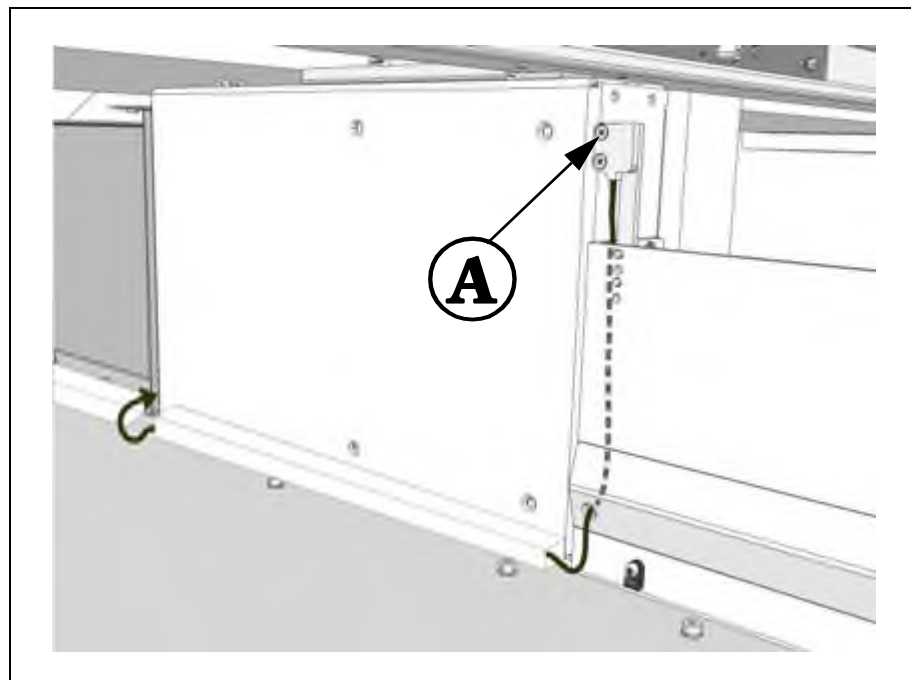

Figure 11-6. Adjust Board Jam Sensor
4. Adjust the Board Jam Sensors by loosening the two screws ('A' in Figure 11-6) holding the Board Jam Sensor to the sensor bracket.
5. Slightly turn the Board Jam Sensor (See Figure 11-6) and monitor the display on the Main Unit. The value on the display should be as high as possible.